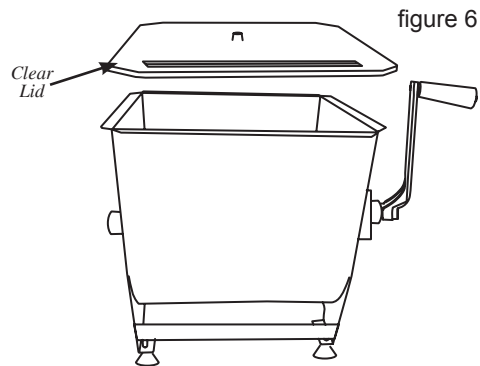

figure 6
12. Install the **Clear Lid** (figure 6). **DO NOT** use the **Meat Mixer** without the **Clear Lid** in place. Severe injury could result!